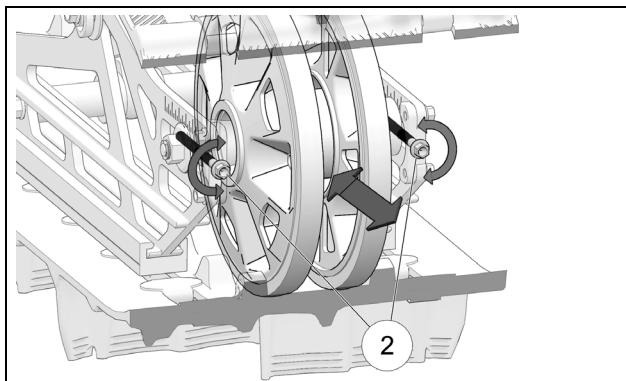

Figure 47
- Rotate the right and left rear wheel axle adjusting bolts (2) an equal number of turns, clockwise or counterclockwise, to set the Track to the recommended tension. See Figure 47.